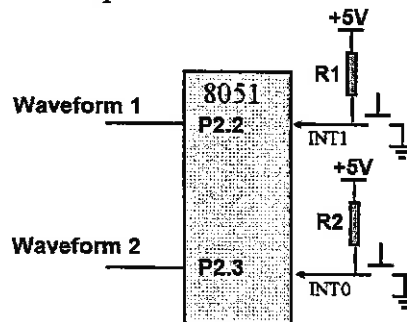

Figure 4(a)
- (a) An 8051 microcontroller system is to be designed to generate two waveforms at Port 2 pin 2 and Port 2 pin 3. Figure 4(a) shows INT1 pin and INT0 pin connected to a switch that is normally high. Whenever INT1 pin goes low, it generates waveform 1 using timer 1 interrupt. Whenever INT0 pin goes low, it generates waveform 2 using timer 0 interrupt.